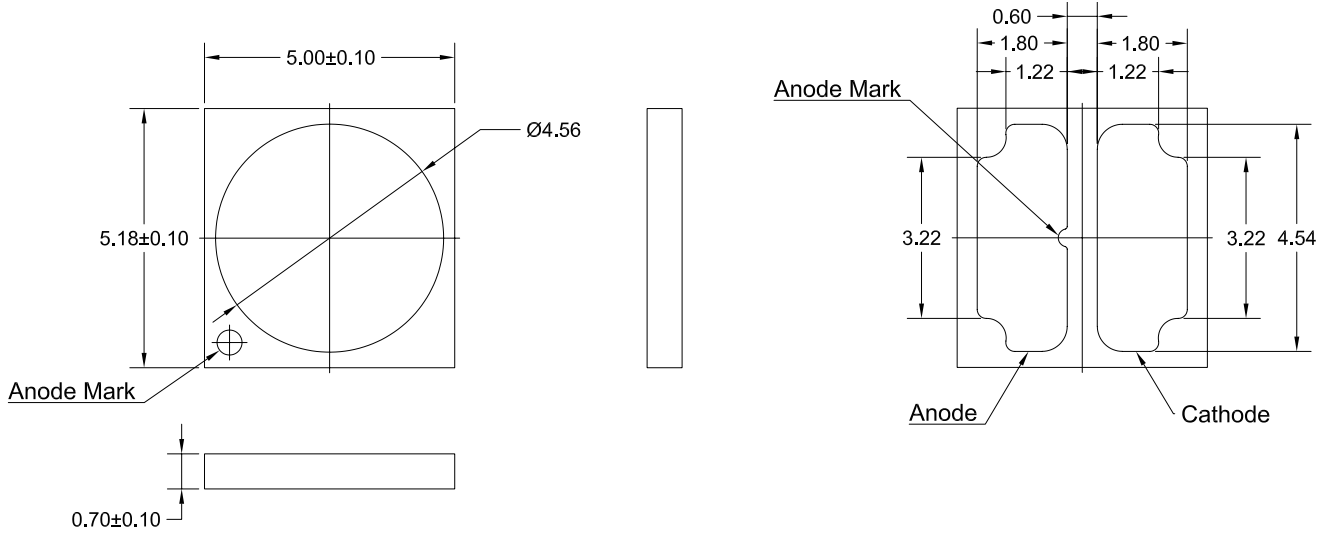

Figure 8a. Mechanical dimensions for LUXEON 5050 Round LES.
- Notes for Figures 8a and 8b: